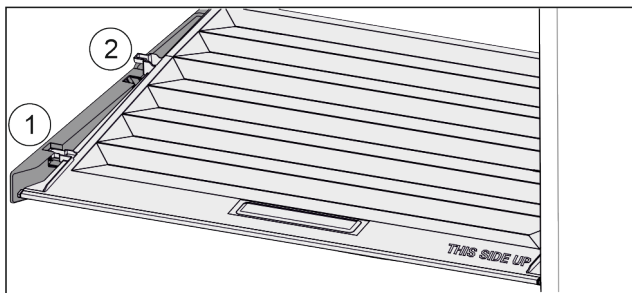

Fig. 91
- Pull the lid up at the front to the opening in the retaining parts Fig. 91 (1).
- Lift from the back and pull it up and out Fig. 91 (2).